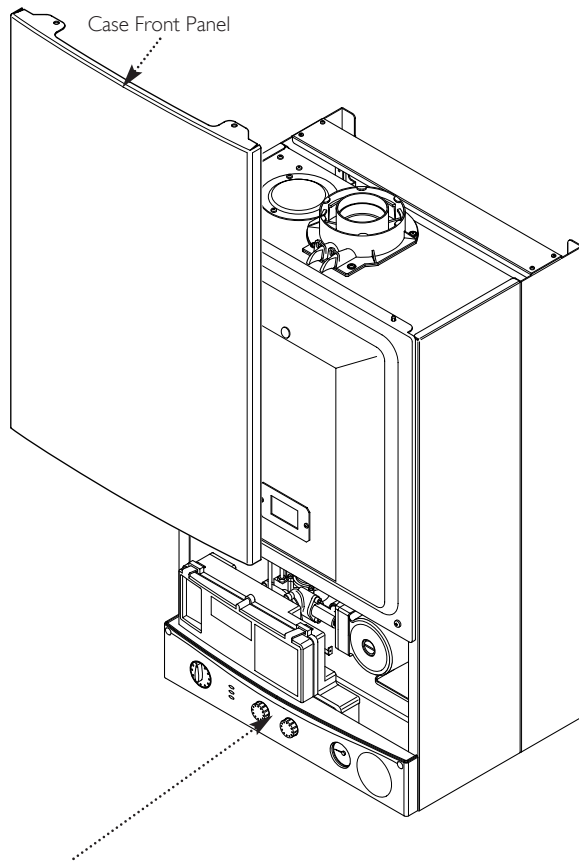

Fig. 52
1. Refit the case front panel and tighten the securing screws (Fig. 52).